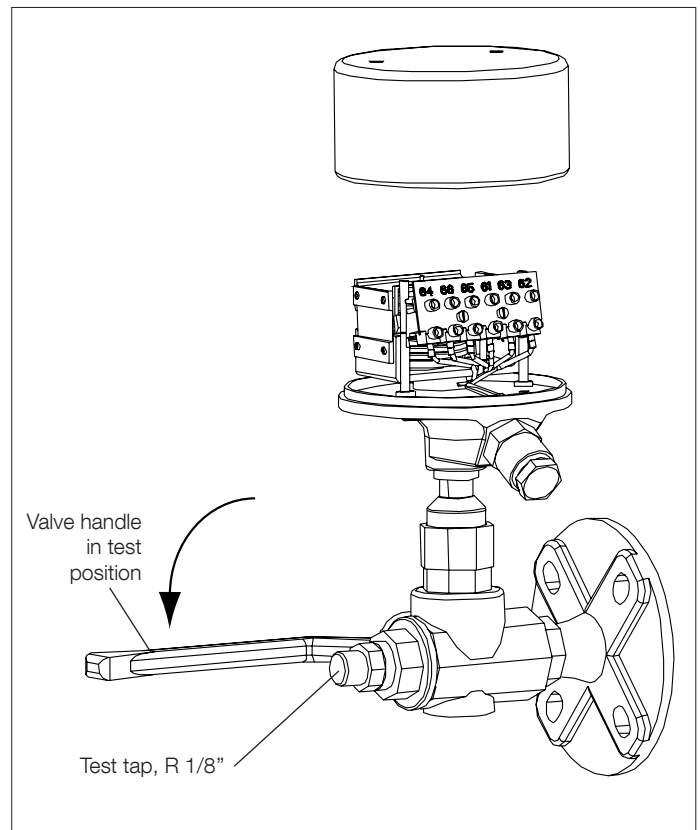

Fig. 11. Test mode.
1. Turn the handle on the valve 90° to the test position. See Fig. 11.
1. Set the three-way valve handle in test position (see Fig. 11)